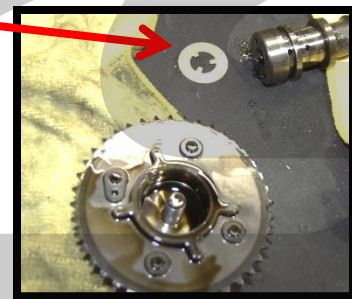

Figure 5b
-  Take notice of the metal washer (Figure 5b). Replace with part# L3K9-12-429